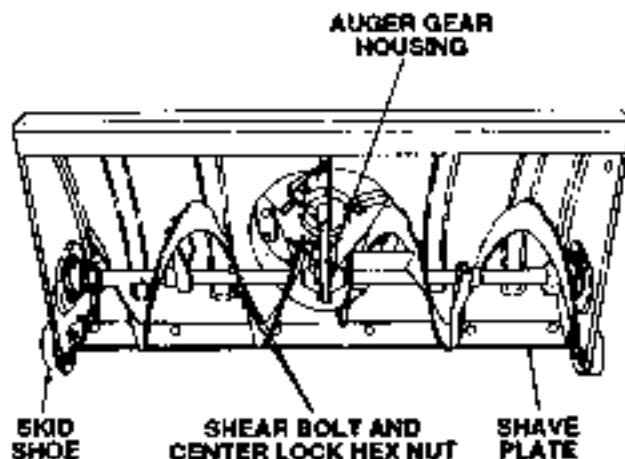

Figure 7-40. Shave Plate and Skid Shoes.
2. The shave plate and skid shoes on the bottom of the snow thrower (See Fig. 7-40) are subject to wear. If worn service as follows:
3. To protect the gear box from damage if the augers became jammed, the augers are secured to the auger shaft with shear bolts (13, Fig. 7-24) and hex center lock nuts (14). If the augers will not turn, check the shear bolts (see Fig. 7-40) and replace if necessary.